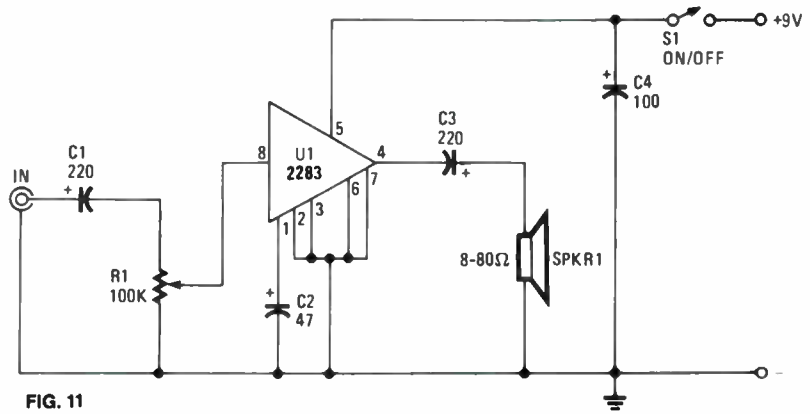

FIG. 11
A.B., of Oswego, NY asks about a small power amplifier, and we think this one (Fig. 11) might just turn the trick. It uses a single DIP IC, a ULN2283B. Potentiometer R1 biases the input to the IC and also serves as a volume control. C1 offers DC blocking at the input, and C3 serves as output blocking capacitor. C2 decouples the supply to the preamp, and